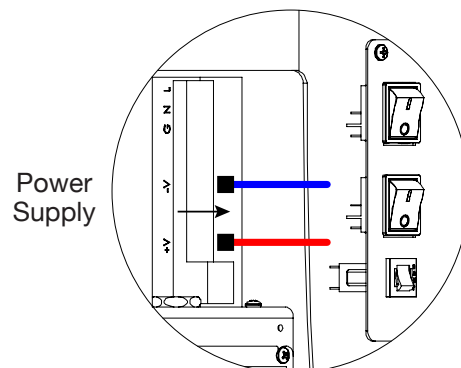

Figure 38. Disconnect DC Power Supply Wires
6. For solar installations, remove the power switch mounting plate and disconnect the red (+V) and blue (-V) wires from the power supply. Tape or wire nut the ends separately to prevent shorts (Figure 38).